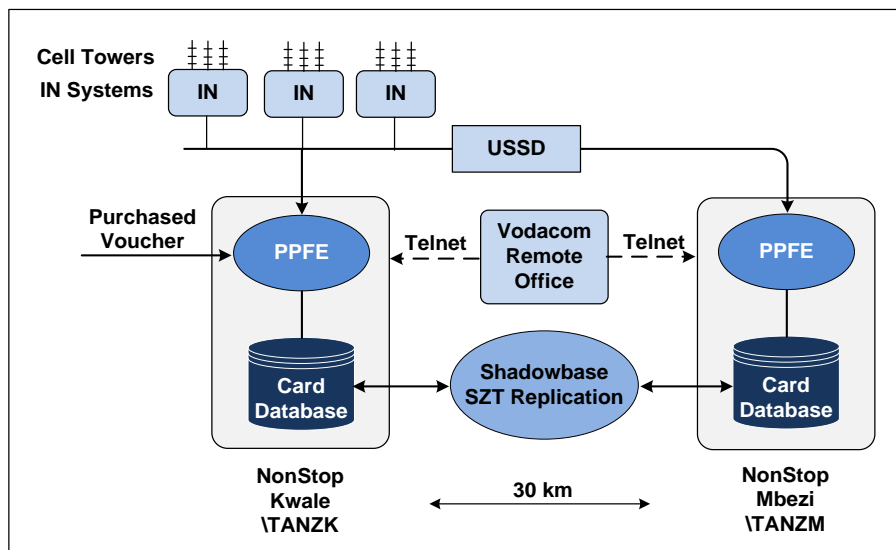

Figure 1 – PPFE Architecture
A simplified overview of how cell calls are handled is shown in Figure 1. In this figure, cell phone subscribers connect to the Vodacom cellular network via Intelligent Network (IN) systems. Each subscriber is assigned an IN based on the first digits of his telephone number. Each cell phone tower connects to an IN. Various information is collected about a cell phone user (such as the number of minutes he has left in his account, and the geographical location of the subscriber).
If the PPFE experiences an outage, subscribers will not be able to add minutes to their accounts. Cell phone service will become unavailable to subscribers once their balance is exhausted. Therefore, the PPFE is implemented as a dual NonStop server pair using bi-directional HPE Shadowbase SZT, where one system is the production system and handles all transactions (see Figure 1). However, the backup system is actively running the PPFE application and is ready to take over in seconds if the production system fails. This method is called cross region replication; its database is kept synchronized with the production system by HPE Shadowbase data replication.⁵